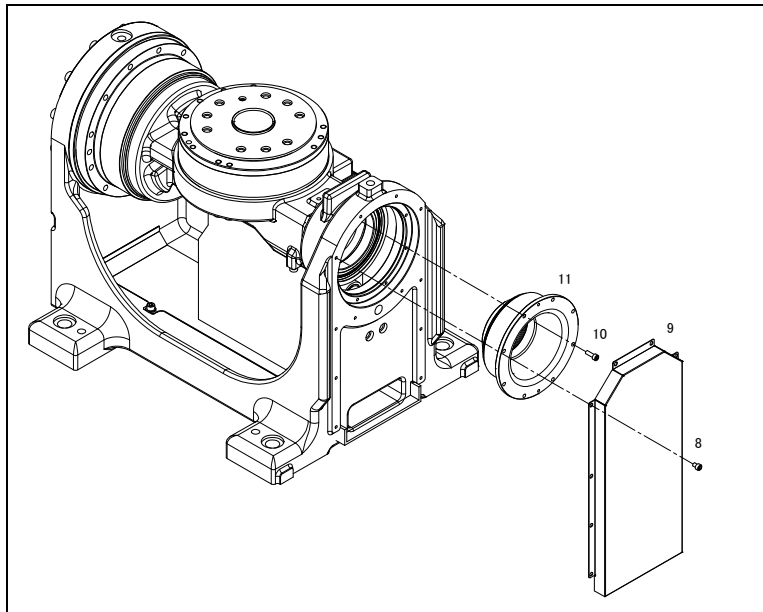

Fig. 6.2 (b) Replacement of the J1-axis reducer 2
- 6 Remove bolts (8) that fix the cable cover and remove the cable cover (9) (see Fig. 6.2 (b)).
- 7 Remove bolts (10) that fix the shaft and remove the shaft (11). At this time, apply LOCTITE 675 to the bearing attached to the shaft.